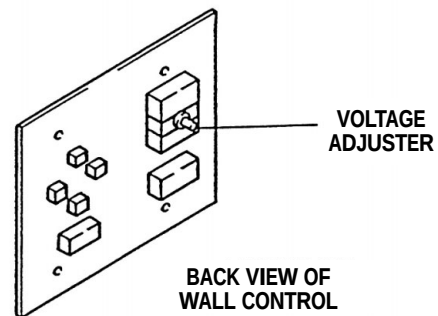

Figure 2-6.
4. Adjust the voltage to the bulb by turning the adjuster on the back side of the intensity control. See figure 2-6.